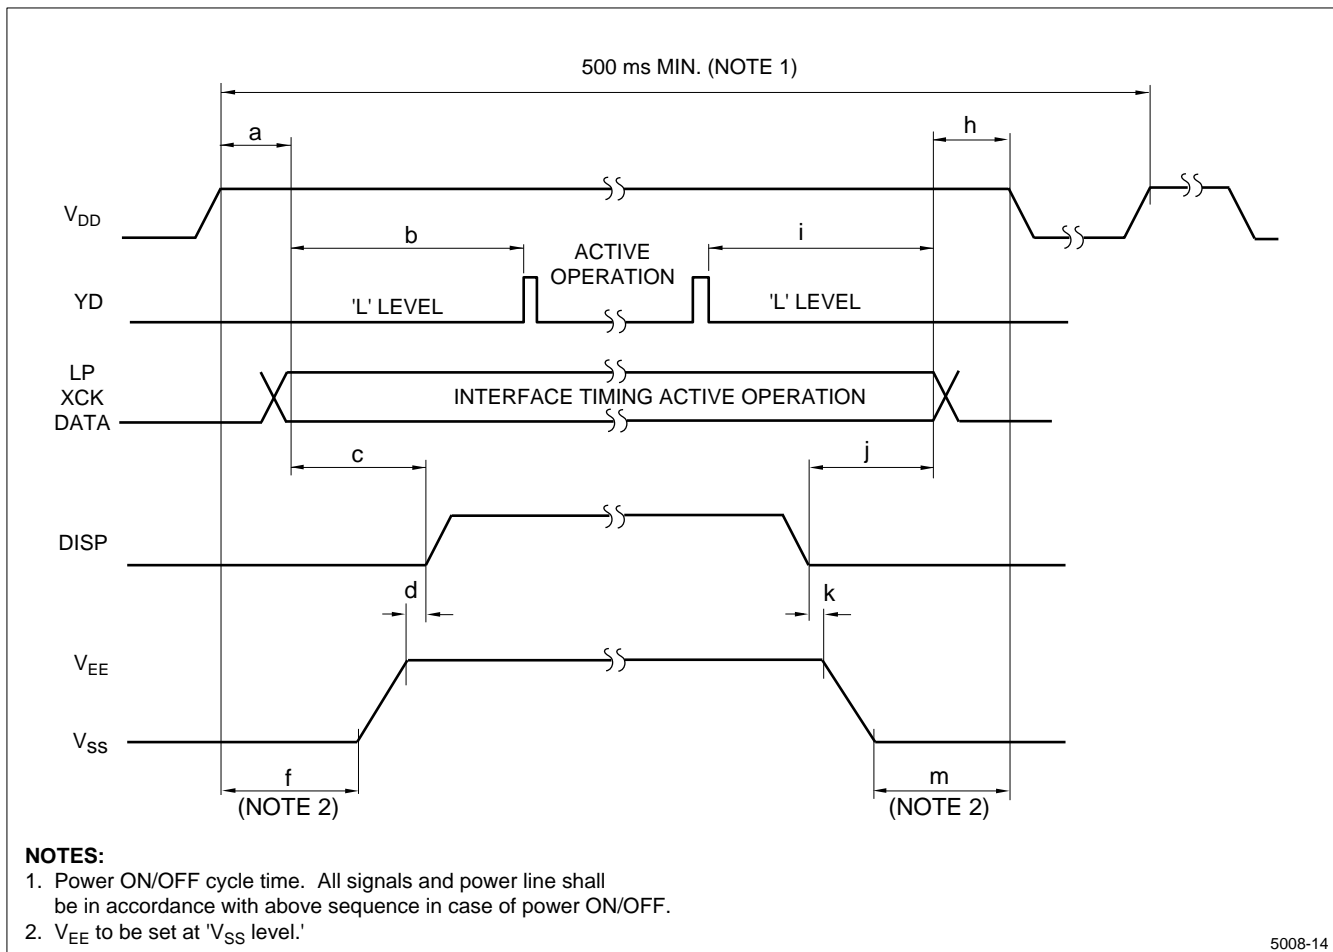

Figure 13. Supply Voltage Sequence Condition
- The unit should be driven according to the specified ratings to avoid malfunction or permanent damage. DC voltage drive leads to rapid deterioration of LC, so ensure that the drive is alternating wave form by continuous application of the signal M. Avoid latch-up of driver LSIs and application of DC voltage to the LCD panel by following the ON/OFF sequence shown in Figure 13.